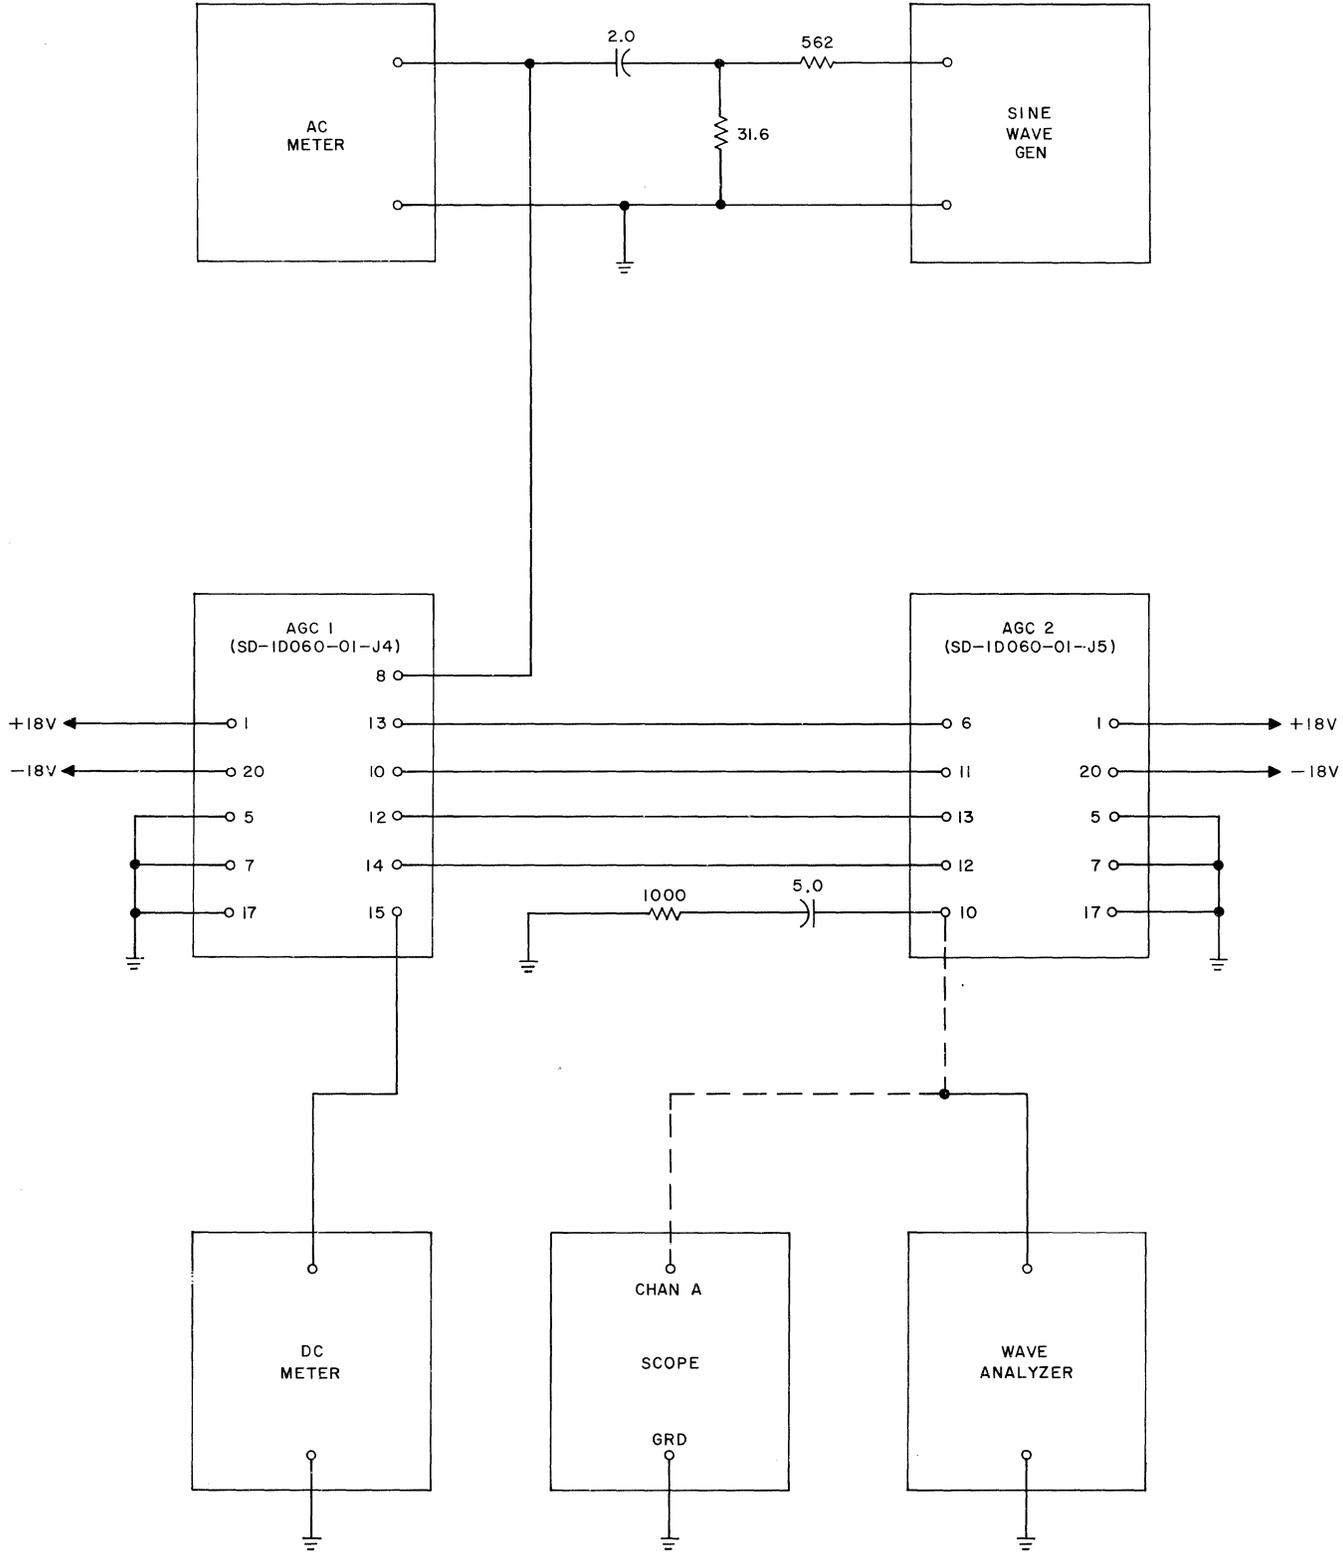

Fig. 17 — Automatic Gain Control 1 Test
(1) The gain control test of the AGC1 card is made in conjunction with an AGC2 card. Connect the cards, as in the suggested test circuit shown in Fig. 17, with the scope connected to terminal 10 of the AGC2 card. Connect power to both cards as specified in 10.20 (a).
(2) Connect the sine-wave generator in series with a 2-uf capacitor to terminal 8 of the AGC1 card. Set the frequency of the generator to 1800 cps ( $\pm 5$  percent). Set the output level of the generator to 0.
(1) The distortion measurement of the AGC1 card is made in conjunction with the AGC2 card. Connect the cards, as in the suggested test circuit shown in Fig. 17, with the wave analyzer connected to terminal 10 of the AGC2 card. Apply power to both cards as in 10.20 (a).
(2) With the wave analyzer connected to terminal 10 of the AGC2 card, apply a  $78$  ( $\pm 1$ ) mv rms signal at  $600$  cps ( $\pm 5$  percent) to input terminal 8 of the AGC1 card. Tune the wave analyzer to obtain a peak reading on the meter at the fundamental frequency of  $600$  cps. Set the meter indication to  $0$  db by adjusting the wave analyzer reference adjustment.
(3) Tune the wave analyzer for a peak meter reading in the vicinity of the second harmonic frequency of  $1200$  cps. The meter should indicate  $-30$  db or lower at the second harmonic frequency.